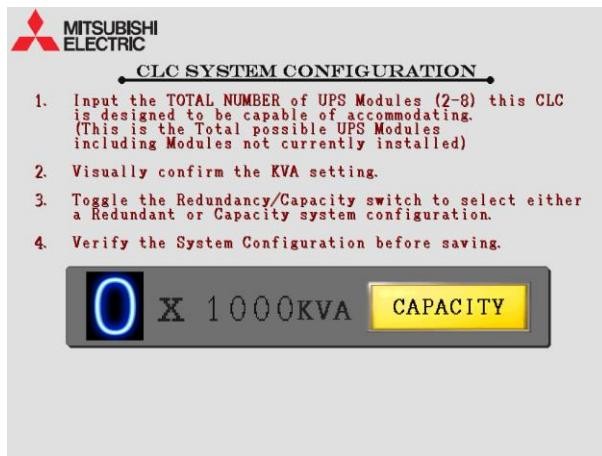

Figure 2: Setup Screen 1
***Note:** Pressing the Initialize CLC Stored Configuration icon will reset the monitor setup complete flag and return display to Setup Screen 1 (Figure 2).